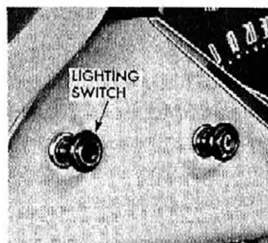

Fig. 5—Lighting Switch
**Lighting Switch.** The lighting switch, located to the left of the instrument group (fig. 5), controls the instrument lamps, headlamps, parking lamps, tail lamp and interior lamp. When this switch is pulled out to the first "on" position the instrument lamps, parking lamps and tail lamp are lighted. When the switch is pulled out to the last position the